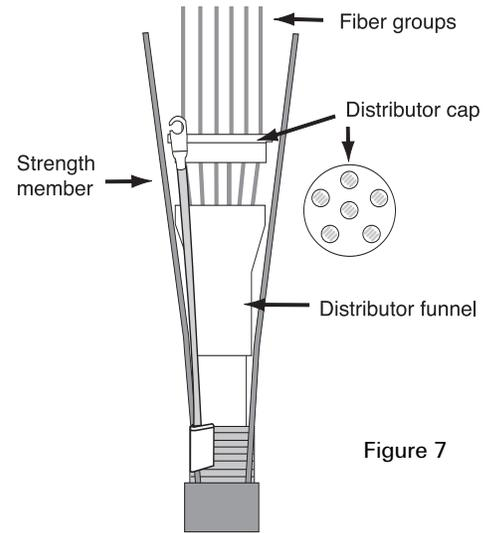

Figure 7
- Place one fiber group in each hole of the distributor cap. (Fig. 7)